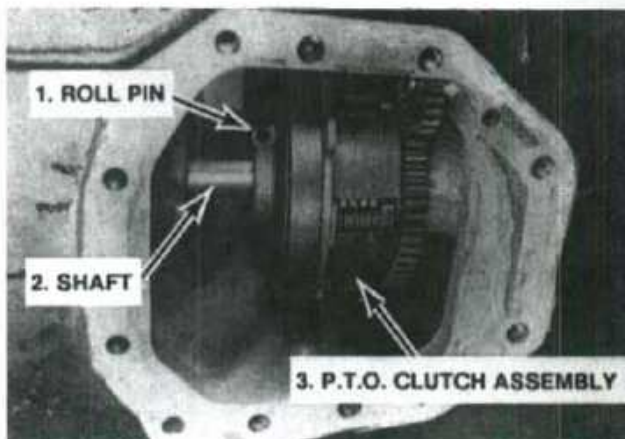

Fig. 88—Bottom view of pto clutch (cover removed).
**104. R&R AND OVERHAUL.** To remove the Power Shift unit, speed gearbox must be removed from the tractor. To remove the speed gearbox, first remove cab and fuel tanks or fenders, tank and platform, as equipped, as outlined in paragraph 145 or 144. Remove plugs and drain fluid from speed gearbox and rear frame. Remove front drive axle drive shaft and shield, if so equipped. Unbolt and remove pto clutch cover from bottom of rear main frame. Refer to Fig. 88 and drive out roll pin (1) from pto clutch and shaft. Unbolt lower pto shaft cover or seal housing, as equipped, and remove with gasket from rear of tractor. Have helper support the pto clutch. With-